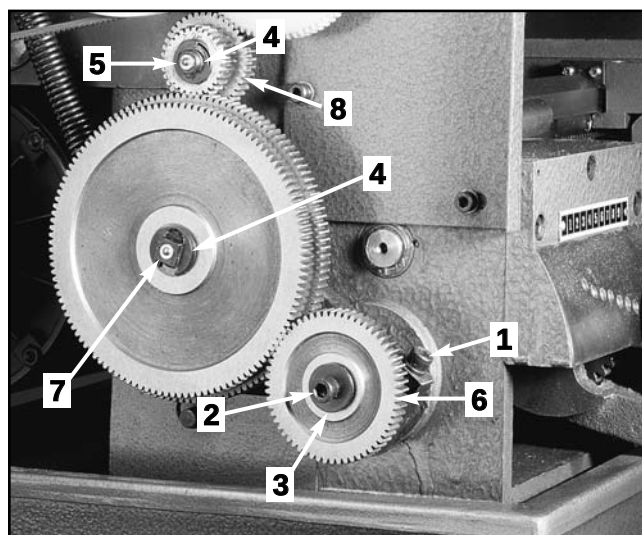

Figure 35. Gear train adjustment points.
1. Loosen cap screw **(1)**. **Figure 35.**